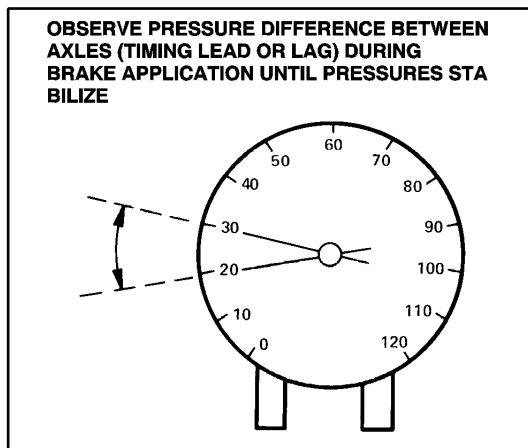

Figure 20 Gauge Reading-Pressure Balance Check
4. **Check pressure build-up rate as follows:** While observing the duplex gauge, apply the service brake control moderately to at least 30 psi (207 kPa). The moderate rate of application should simulate that used in day-to-day braking under normal operating conditions. Observe and record the pressure difference between the hands on the test gauge dial (Figure 20). The dual pressure readings give an indication of the timing difference between the axles. If the pressure build-up in the trailer brakes leads the tractor brakes, the gauge reading should be recorded as a positive (+) number. If the pressure build-up lags, the reading should be recorded as a negative (-) number. Release the service brakes. Repeat this step at least three times and record the average of the total readings.